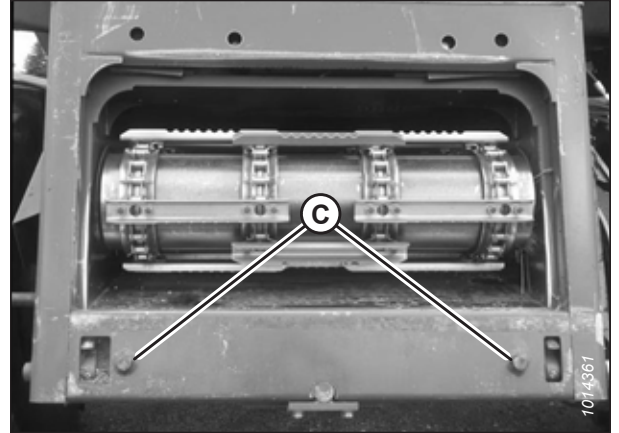

Figure 5.22: Alignment Pins on Feeder House
3. Slowly approach the header until the feeder house is directly under adapter top cross member (A) and alignment pins (C) on the feeder house (shown in Figure 5.22, page 299) are aligned with holes (B) in the adapter frame.